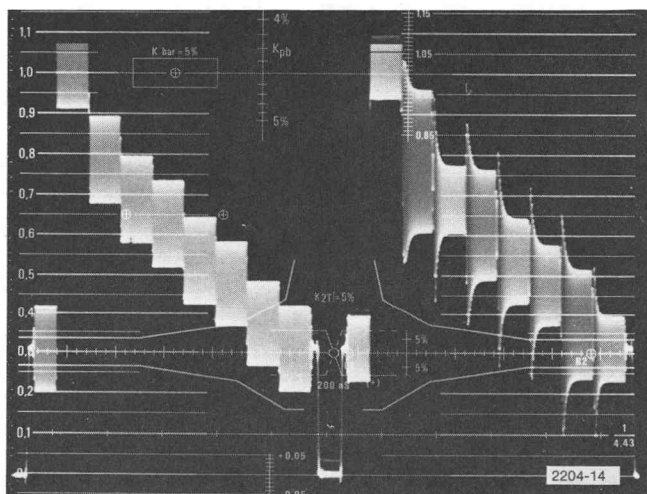

Fig. 1-13. D'B line normal, D'R line constant amplitude subcarrier.
5. D'R: Set the D'R switch to OFF and observe that the D'R line now has constant amplitude subcarrier for the duration of the line. See Fig. 1-13.